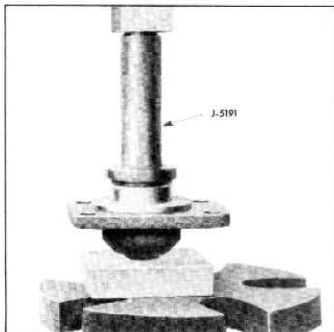

Fig. 39—Installing End Cover Bearing
2. Press new roller bearing into end cover using installer, J-5191 (fig. 39). This tool has a shoulder to locate bearing at proper depth in cover.